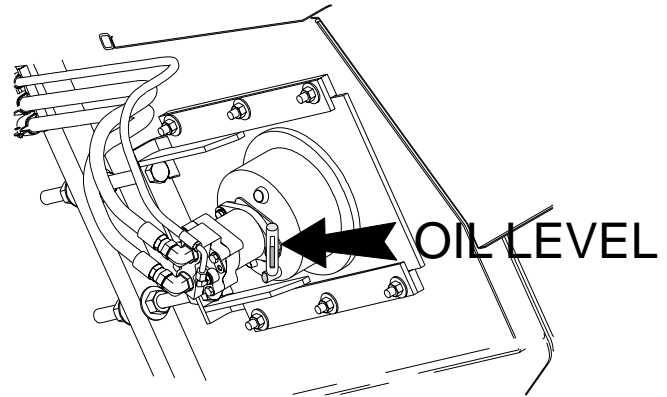

Figure 22
- Check the conveyor drive sight level gauge daily for oil level (Figure 22).